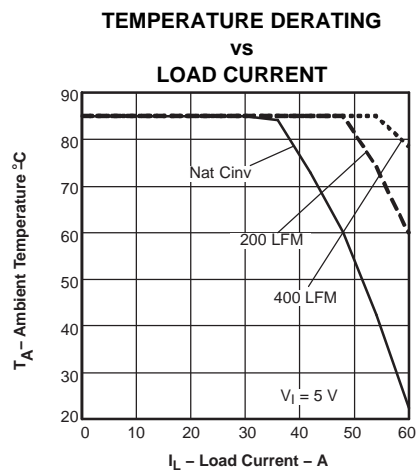

Figure 8. Safe Operating Area
- (2) SOA curves represent the conditions at which internal components are at or below the manufacturer's maximum operating temperatures. Derating limits apply to modules soldered directly to a 4 inches x 4 inches double-sided PCB with 1 oz. copper. Applies to Figure 8.